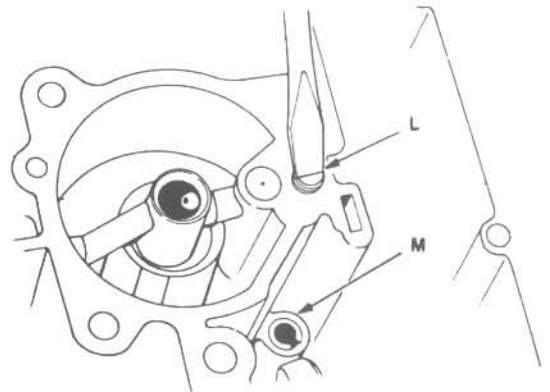

Fig. 4.77 Low speed jet (L) and main metering jet (M) locations
- 16 Use a screwdriver to unscrew the low speed jet and remove the main metering jet (Fig. 4.77).